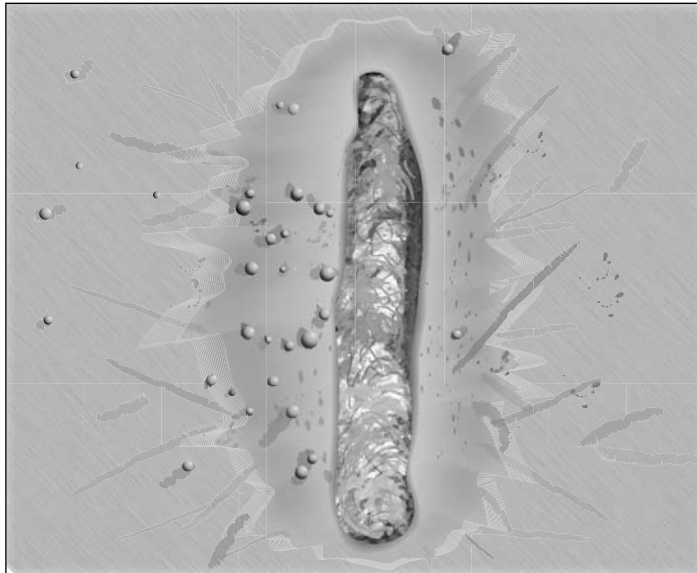

Figure 10-1:
4. Move the gun slowly left to right across your body, like you're writing on a tablet, paying attention to the weld pool size, metal transfer, and how much spatter (see Figure 10-1) you're producing as you lay down the weld bead.
Look at the bead you've welded. Is it acceptable? You can see examples of good and bad mig weld beads in Figure 10-1. If so, you can turn off your mig machine and your shielding gas flow and then clean up any mess you've created. If it looks more like the poor weld in Figure 10-2, just keep trying until you get a good weld.